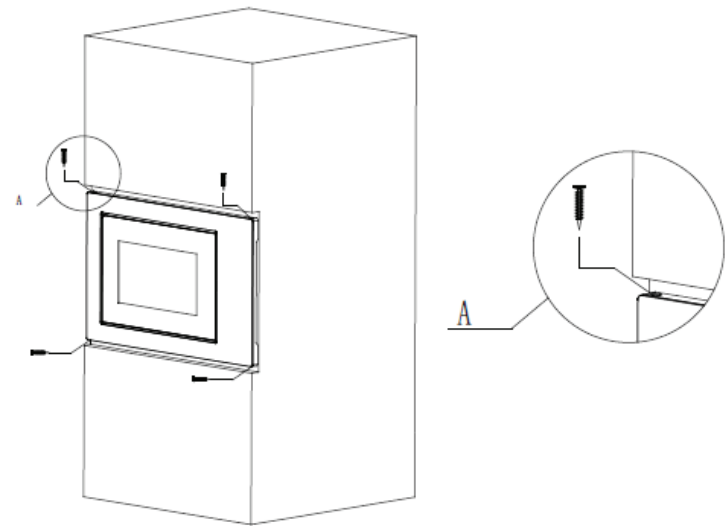

Fig.4
**4- Use the screws supplied in the packaging to secure the microwave oven inside the cabinet. (Fig. 4)**